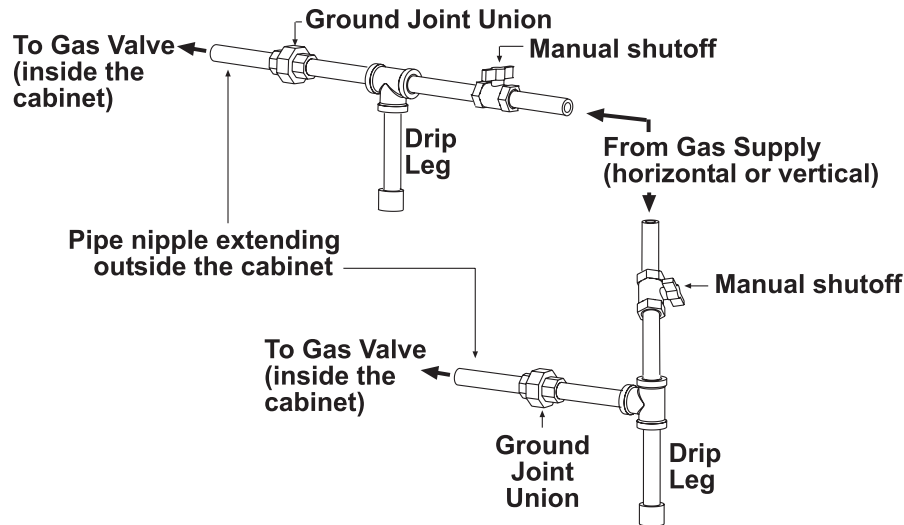

Figure 11. Gas Connections
- Gas connections are shown in **Figure 11** and gas connections sizes are listed in **Table 11**.
- Install a ground joint union and manual shutoff valve upstream of the unit control system. The 1/8-inch plugged tapping in the shutoff valve provides connection for the supply line pressure test gauge. The *National Fuel Gas Code* requires the installation of a trap with a minimum 3-inch drip leg. Local codes may require a longer drip leg, typically 6-inch (see **Figure 11**).